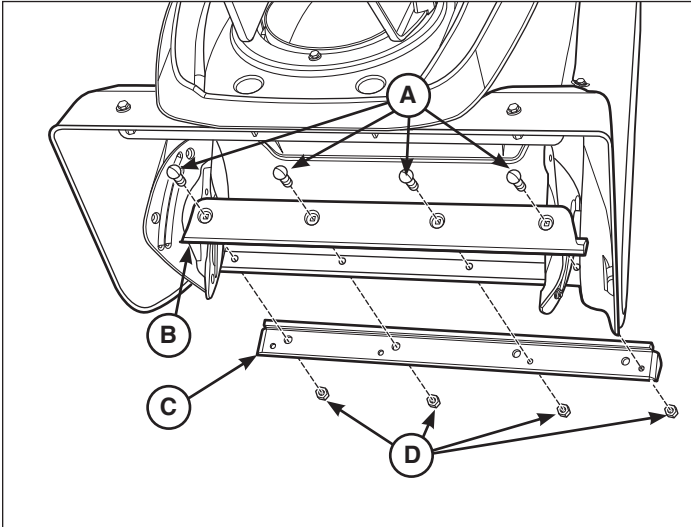

Figure 4
1. Insert four screws (**A**, Figure 4) through the scraper bar (**B**), snow thrower housing and scraper bar support (**C**).